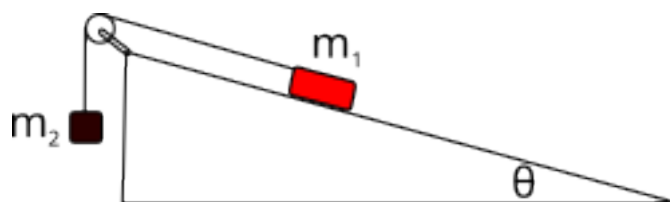

Figure 2: Set-up for the force balance experiment.
- i. Connect a string to your iOLab cart, place your cart wheels-down on the inclined plane (with an angle of at least 20 degrees), and pass the string over the pulley as shown in Figure 2 above.
3. (a) Referring to Figure 2, draw well-separated force diagrams showing the forces on m_1 (the ioLab cart) and m_2 (the hanging mass). Label each force vector and describe in words each force vector. To "describe" a force, you must state whether the force is *contact* or *gravitational*, which agency is exerting the force, and which mass the force is acting on.